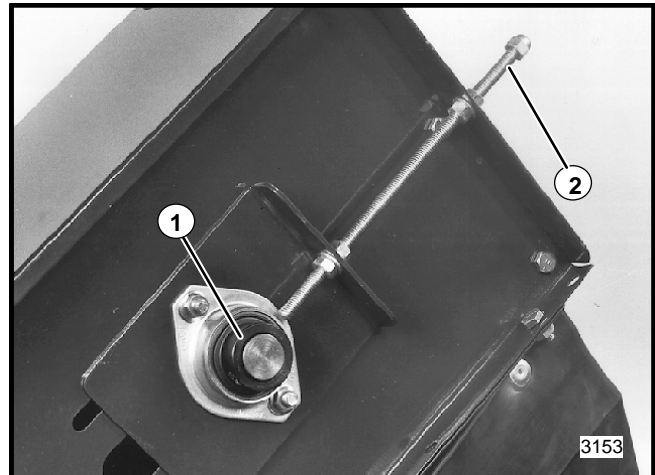

Figure 49
**DO NOT** let elevator chain become excessively loose. Normally an adjustment will be needed at the upper drive sprocket after each 8 hours of operation. Loosen bearing attaching hardware and make equal adjustments at each upper bearing (See Fig. 49). With the cover off, adjust the chain so that there is 3" of deflection measured at the center of the chain. **BE SURE** to keep the sprocket shaft perpendicular to the chain. Retighten hardware after adjustment.